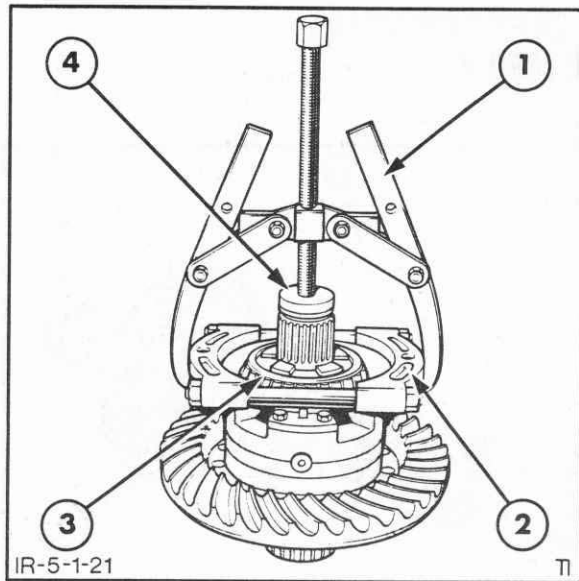
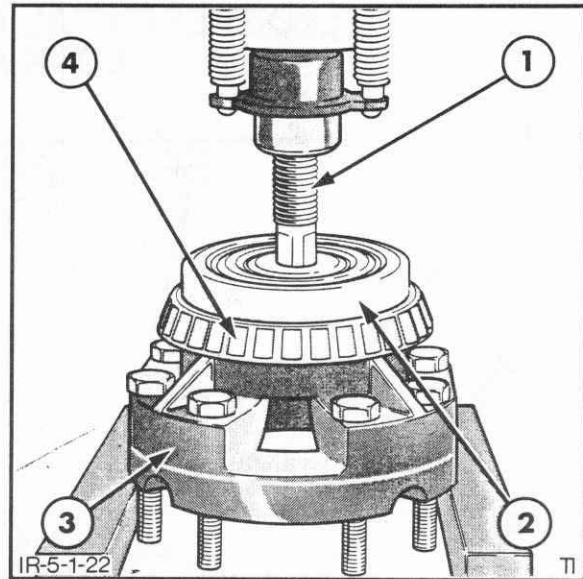

Figure 5-21
Figure 5-22
3. If it is necessary to remove the differential bearing assembly from the differential case using Tool #952, 1003 and 630S or Tool #9526, 9516 and 9210 on right- and left-hand cases, Figure 5-21. Install new bearings using a press and suitable size step plate, Figure 5-22. Coat the bearings